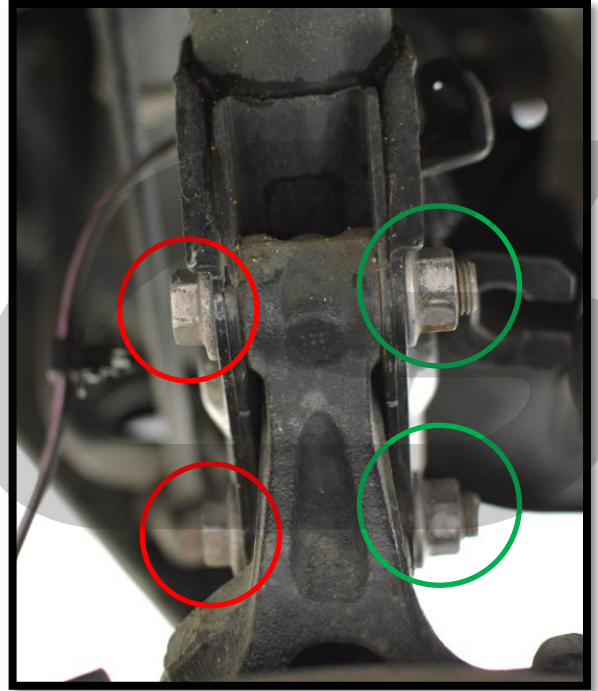

Figure 1c
- g) Position a 17mm wrench or socket on one of the bolt heads **circled in red** in **Figure 1c**. Use a 21mm wrench/socket on Mazda 6.
- h) Position a 19mm wrench or socket on one of the nuts **circled in green** in **Figure 1c**. Use a 23mm wrench/socket on Mazda 6